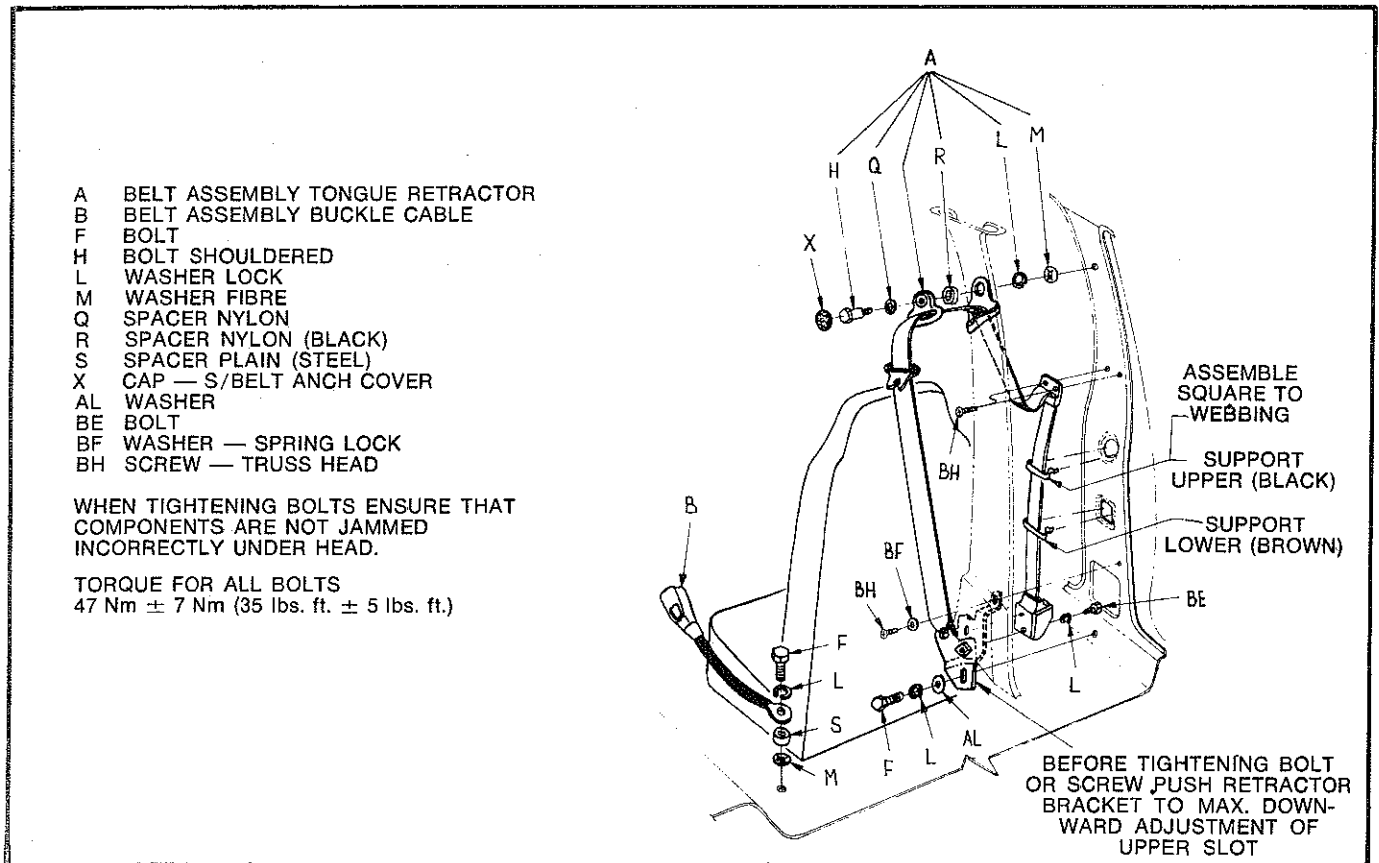

Fig. 32—Front seat belt (four door models)
(1) For seat belt fitting instructions, refer to Fig. 32. to 35.
(2) Whenever fitting the seat belts, ensure that they are adjusted so that the webbing that passes across the wearer's body is not twisted and that the seat belt buckle is at or below the wearer's hip.
(3) Ensure that the inboard half of lap/sash belts and both halves of the centre seat belt are routed in accordance with the appropriate diagram.
(4) The buckle half of centre seat belt is to be fitted to the left hand side anchor point.
(5) All seat belts (except front inner and all retractor housings) must pivot freely about their anchorages.
(6) All seat belt securing bolts are to be torqued to 47 Nm  $\pm$  7 Nm (35 lbs. ft.  $\pm$  5 lbs. ft.).